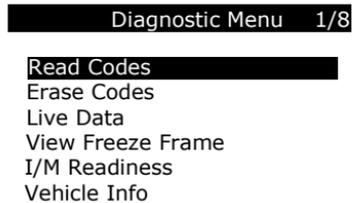

Figure 4.3
- 7) View a summary of system status (MIL status, DTC counts, Monitor status) on screen. (Figure 4.1 ) Wait a few seconds or press any key for **Diagnostic Menu** (Figure 4.3) to come up.
- 1) Use the **Direction** button to select **Erase Codes** from **Diagnostics Menu** and press the **OK** button. (Figure 4.3)
(Figure 4.3)
- 1) To view freeze frame data, use the **Direction** button to select **View Freeze Frame** from **Diagnostic Menu** and press the **OK** button. (Figure 4.3)